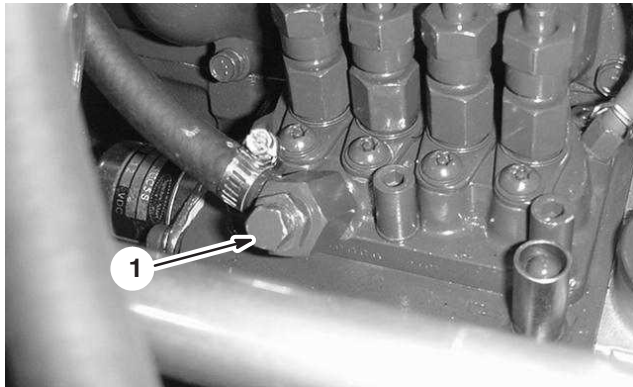

Figure 15
7. Open the air bleed screw on the fuel injection pump (Fig. 15).